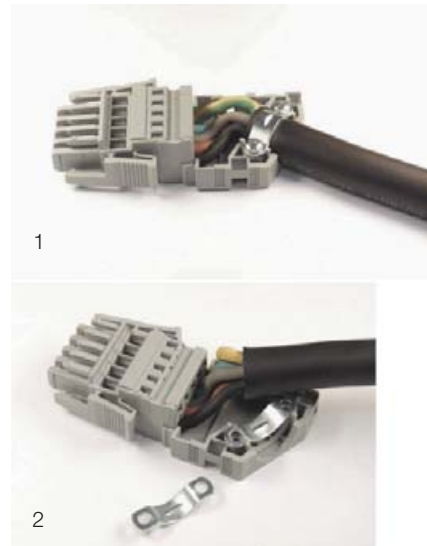

Fig. 34: Connector with strain relief housing
- Guide the conductors in the strain relief housing, as displayed in Fig. 34, and secure the sheathed flexible cable to the strain relief housing with a cable clamp.
To provide adequate strain relief for cables with a diameter of  $< 12$  mm as well, it is necessary to install a second cable clamp underneath the cable (Fig. 34, item 2).